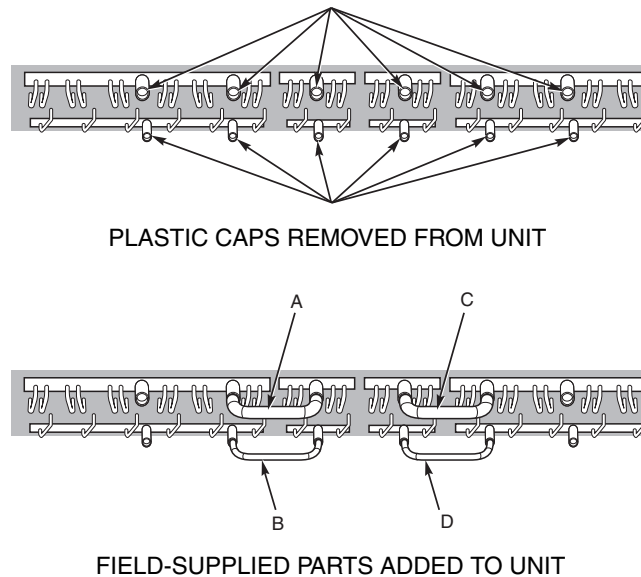

Fig. 16 — 09DK044 Unit with 53/47% Circuiting
1. Remove all plastic caps. Refer to Fig. 16.
2. Attach following parts as shown in Fig. 16. Perform phos-copper brazing on all field-made connections while protecting adjacent joints from heat.
- a. Construct the 53% gas tubing assembly (Item A), consisting of the following parts, and braze it into gas headers as shown in Fig. 16, Item A:
- b. Construct the 53% liquid tubing assembly (Item B), consisting of the following parts, and braze it into liquid headers as shown in Fig. 16, Item B:
- c. Construct the 47% gas tubing assembly (Item C), consisting of the following parts, and braze it into gas headers as shown in Fig. 16, Item C:
- d. Construct the 47% liquid tubing assembly (Item D), consisting of the following parts, and braze it into liquid headers as shown in Fig. 16, Item D: